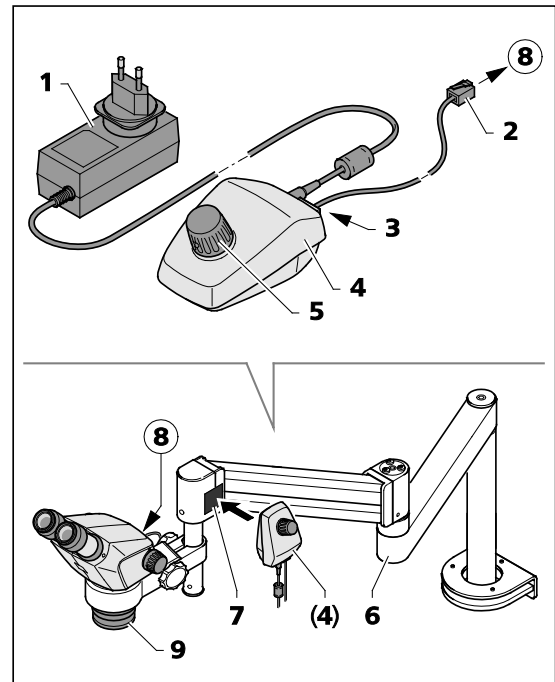

Fig. 24 Controller K LED
The controller K (Fig. 24/4) is used to activate the vertical illumination of the Stemi 305 body or the ring illuminator in case of applications with boom stands A or U or additional stands.
- Screw-fasten front lens system 0.5x/185 mm (Fig. 24/9) to the microscope body.
- When using the ring illuminator, adapt the latter to the front lens system (Fig. 24/9) using the adapter supplied with the device (ID 58 mm, OD 66 mm).
- Secure the adhesive side of the magnetic plate (Fig. 24/7) to the swivel arm stand (Fig. 24/6).
- Plug the connection cable supplied with the device (1 m long) (Fig. 24/2) into the socket (Fig. 24/8) on the microscope body or the ring illuminator and into the socket (Fig. 24/3) on the back of the Controller K (Fig. 24/4).
- Place Controller K (Fig. 24/4) next to the magnetic plate (Fig. 24/7).
- Connect Controller K to the power supply using the power unit (Fig. 24/1).
- Align swivel arm stand (Fig. 24/6) to enable an ergonomic working position.
- Turn the knob (Fig. 24/5) on the Controller K to switch the vertical illuminator (or the ring illuminator) ON and adjust illumination intensity by turning the knob.